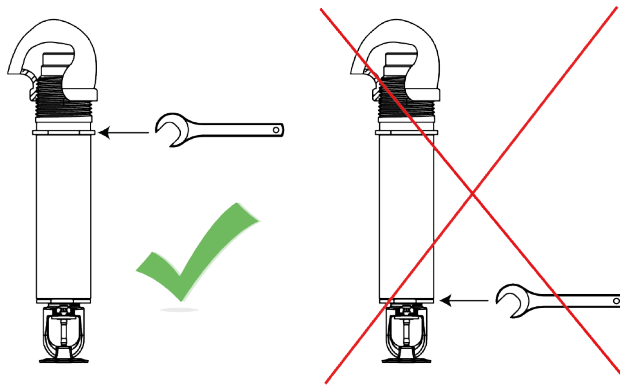

Fig. 4: Positioning open-end wrench
Observe correct assembly with the open-end wrench (Fig. 4).
2. ➔ Only install the dry sprinkler with the open-end wrench over the hexagon of the threaded connector (Fig. 4/left).